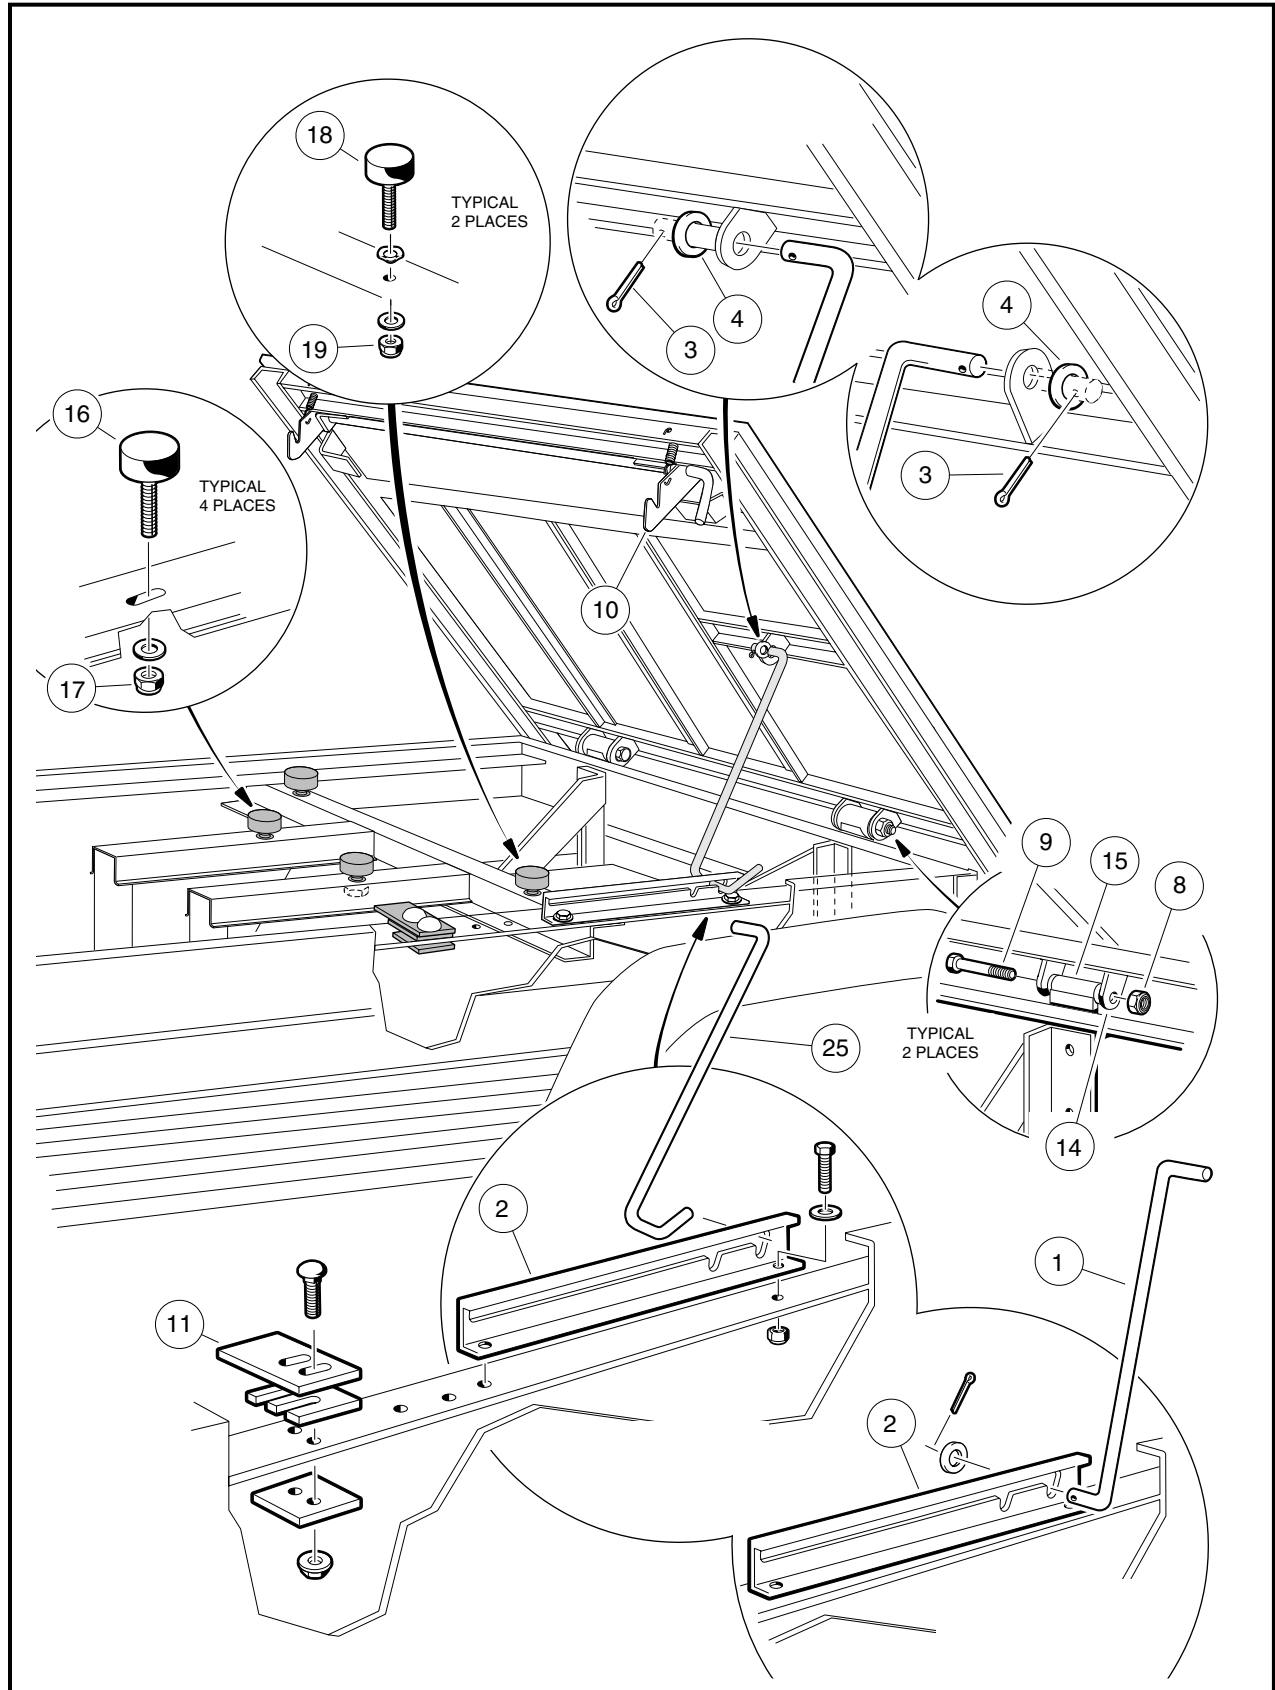

Figure 4-5 Turf/CA 272 Cargo Bed
*Prop rods (1) (CCI P/N 1015348) and (25) (CCI P/N 102301401) are not interchangeable (Figure 4-5, Page 4-10).*
- 1.1. Raise bed and ensure that the prop rod (1) or (25) is secured in the prop rod track (2). Hold bed securely in an upright position. Remove cotter pin (3) and flat washer (4) from top end of prop rod where prop rod attaches to bed. Remove prop rod (1) or (25) from bed and place prop rod between prop rod track (2) and rear body panel. Lower bed onto vehicle frame (**Figure 4-5, Page 4-10**).
- 1.1. Hold front of bed lower than rear of bed and place front edge of bed onto vehicle frame and align latches (10) with latch plates (11) (**Figure 4-5, Page 4-10**).
- 1.1. Adjust the two front bumpers (16) by loosening the 1/4-20 nylon lock nuts (17) and position so that when the cargo bed is lowered, both bumpers are centered on the bed frame weldments (**Figure 4-5, Page 4-10**).